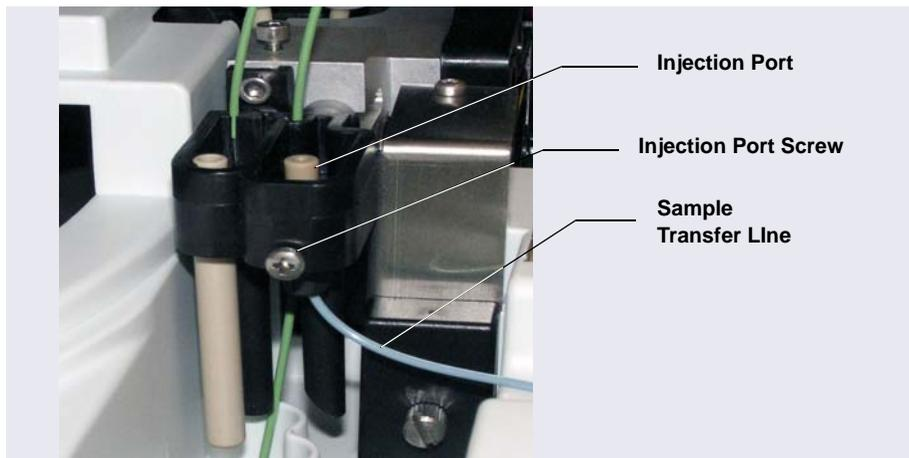

Figure 5-43. *Sample Transfer Line Installed*
7. Gently tighten the screw on the front of the injection port (see Figure 5-43). Do not overtighten the screw.